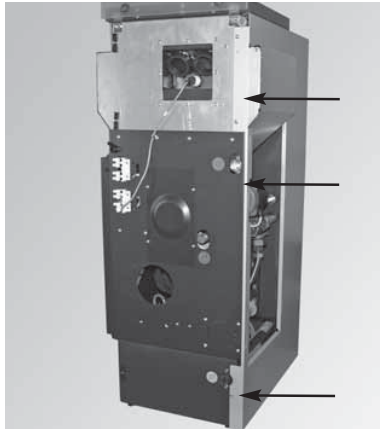
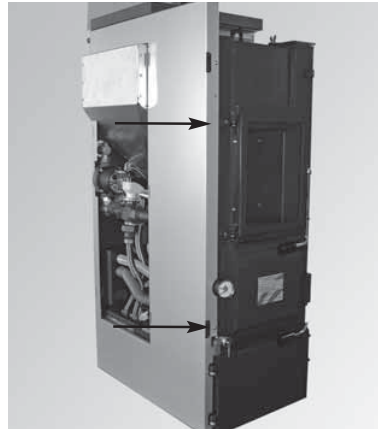

Fig. 28 Screwing the side panel on at the rear at 3 points
Fig. 29 Screwing the side panel on at the front at 2 points
- Secure the “left side panel” (part 2) to the boiler at the rear using 3 screws – Fig. 28 and front using 2 screws – Fig. 29.